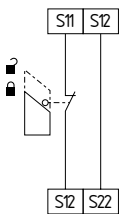

Fig. 8
**Single-channel guard door monitoring circuit with interlocking devices to EN ISO 14119 (Fig. 8)**